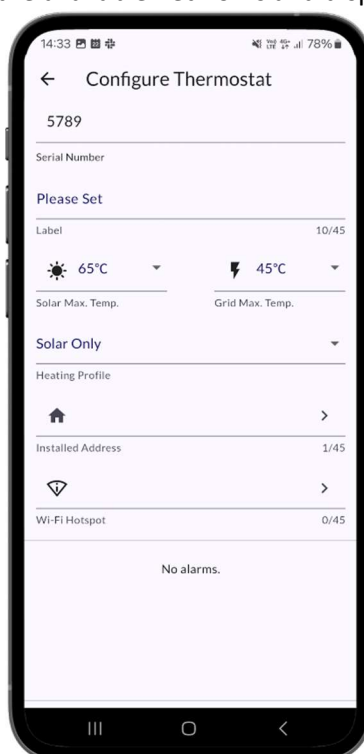

Figure 4.11 Configure screen
36. The application should display the “Configure Thermostat” screen (**Figure 4.11**)